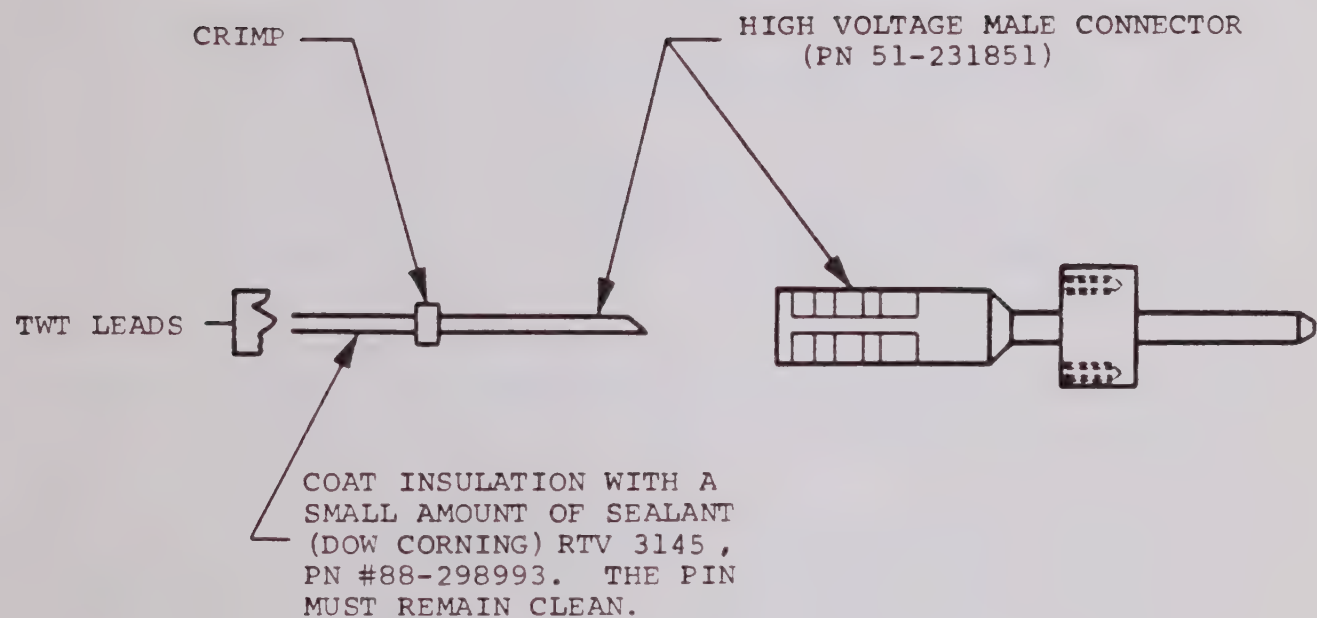

FIGURE 6-3 INSTALLATION AND POTTING OF HV CONNECTORS
- f. Install new high voltage male connectors to the TWT leads as shown in Figure 6-3. Proceed as follows: